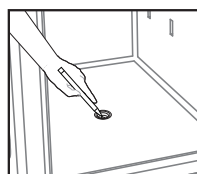

Figure 3
5. Mark the drilling point on the floor surface with a pen or pencil through the hole (Figure 3).